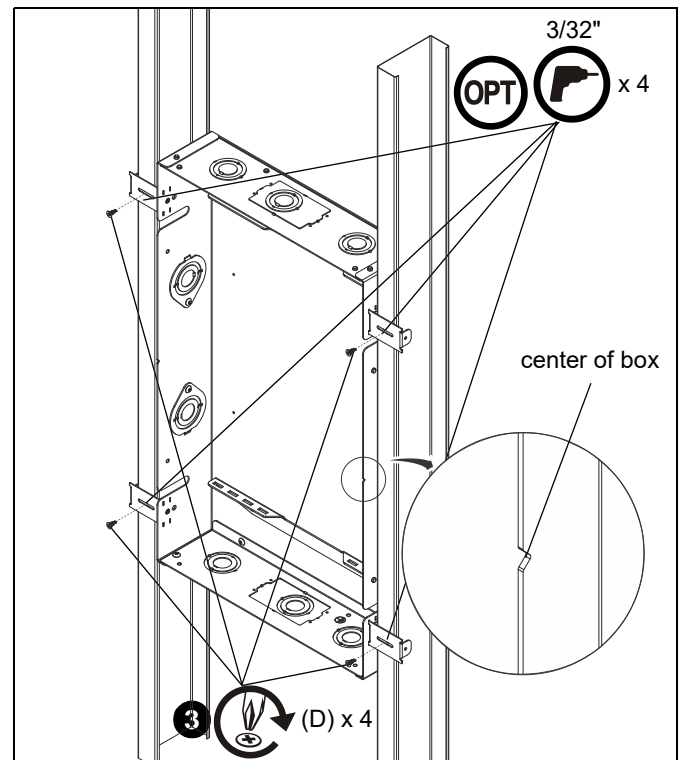

Figure 3
3. Use four #6 x 3/8" Phillips tapping screws (D) to secure four stud tabs (B) to studs at desired mounting height for in-wall box (A). (See Figure 3)
NOTE: Four 3/32" pilot holes may be drilled into studs prior to installation of screws if desired. (See Figure 3)